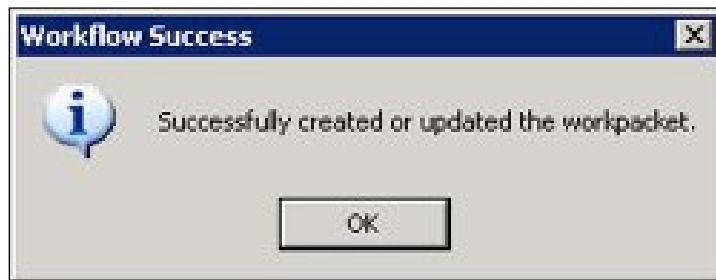

Figure 7-92: Workflow Success Message
- b. Click the OK button. The Workflow Success message is displayed (Figure 7-92).